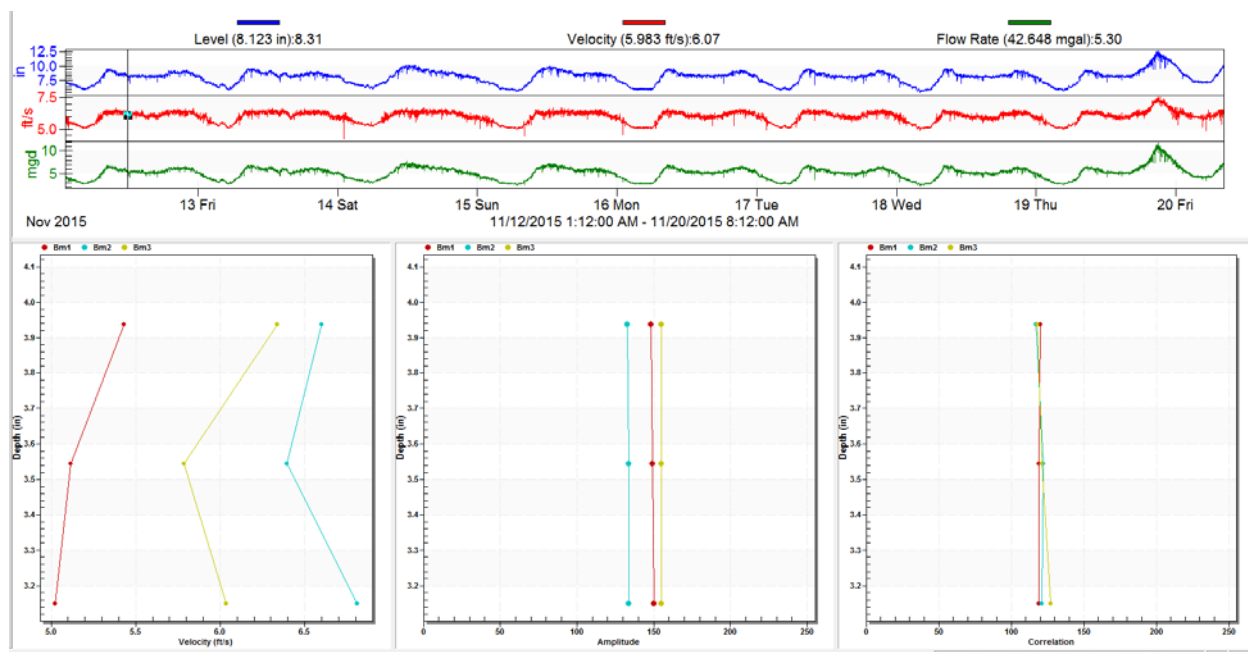

Figure 2-17 Real-time Data screen
- When the Real-time Data screen appears (Figure 2-17), click Exit. Disconnect the interface cable and exit the Operate screen. Exit the *WinADFM* software program.